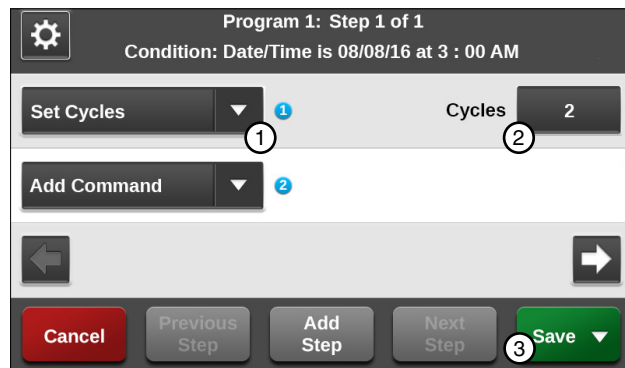

Figure 140-3 1. Set Cycles Command 3. Save
4. Enter the command to be executed at that time. Refer to Figure 140-3.